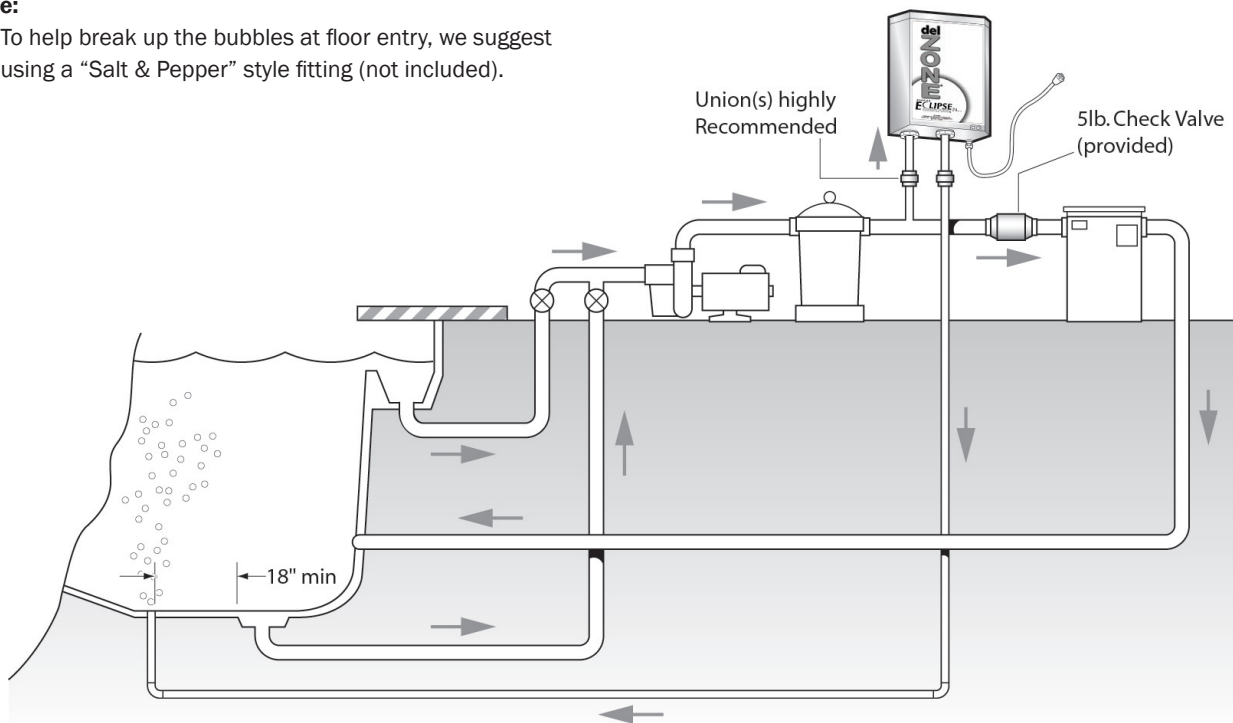

Figure 1: **New Pool**
- A pressure wire connector is provided on the outside of the unit to permit connection to a minimum No. 8 AWG (8.4 mm²) solid bonding conductor between this point and any grounded metal equipment, grounded metal enclosures of electrical equipment, metal water pipes, or conduit within five (5) feet (1.5m) of the unit as needed to comply with local requirements.
- Install at least 5 feet (1.5 meters) from wall of pool water using nonmetallic tubing. It is highly recommended that the ozone generator be installed at least one (1) foot above the water level to prevent water from contacting electrical equipment. Install in accordance with the installation instructions.
- The Total Eclipse™ must be installed in an outdoor location, or indoors in a forced air ventilated room, and installed so that the orientation is exactly as shown in Figure 1. Install to provide water drainage of generator to protect electrical components.
3. Install 3/4" PVC piping for circulation of pool water, as shown in Figure 1.
- b. Plumb the Water Return out of the Total Eclipse as a dedicated line to the bottom of the pool as shown in Figure 1.